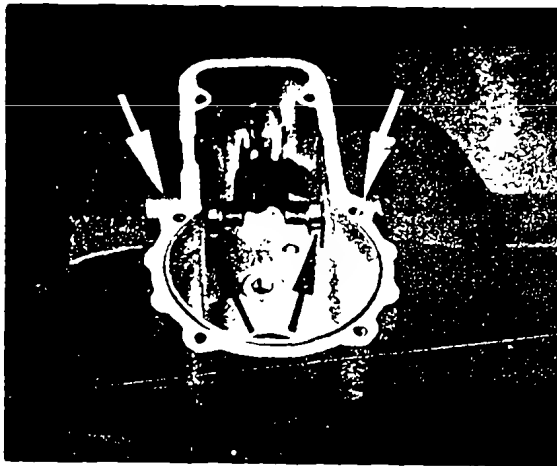
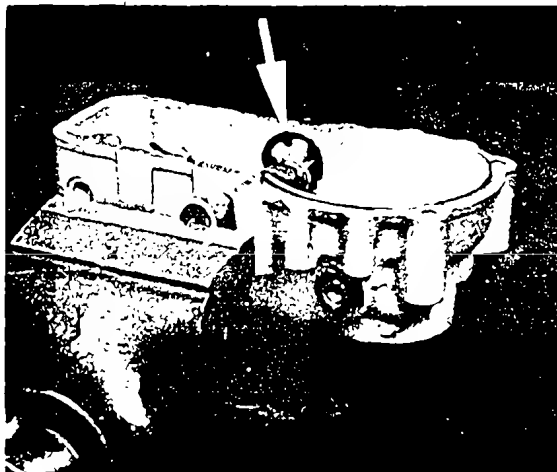

Fig. 37 Pressing bearing bushes into final position using assembly aid bushes
Fig. 38 Snapping circlips into position
the grooves for circlips (58) become accessible (Fig. 37). At this stage snap circlips into position (Fig. 38).